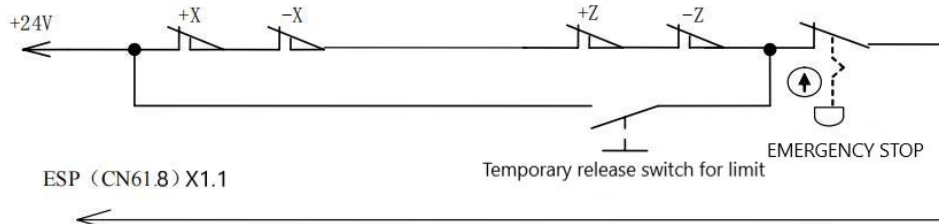

Fig.2-27 Series connection between emergency stop and travel switch
① The series connection between the emergency stop and travel switch is shown in Fig. 2-27: